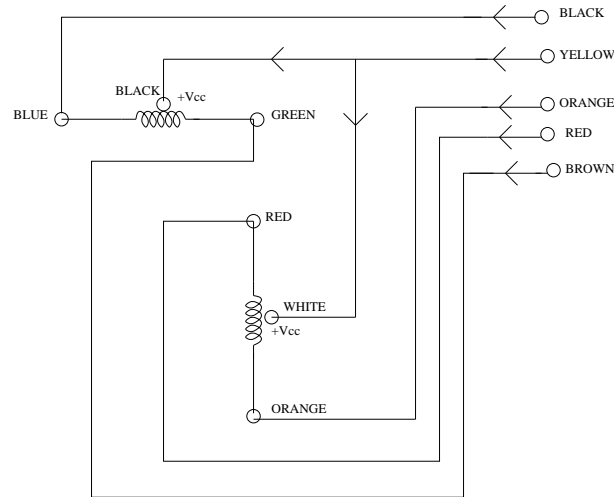

Figure 3: Unipolar connection
- To change the current and flux direction in the phase windings. This is achieved by taking a centre-tapped wire connection between each pair of phase windings and is termed as a Unipolar connection as shown in Figure 3 (A , B , \bar{A} and \bar{B} correspond respectively to Black, Orange, Red and Brown leads on the right in Figure 3).